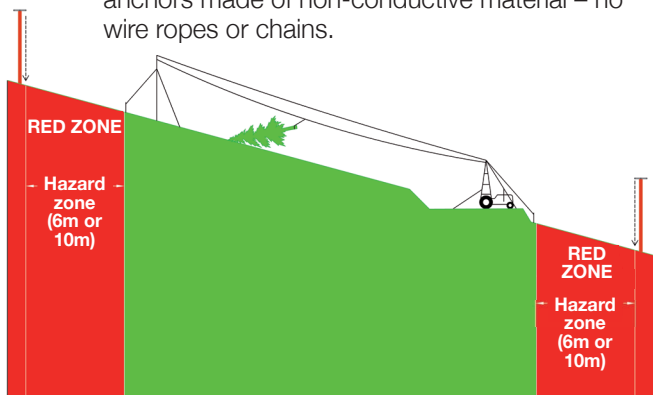

Figure 6
- Normally no part of the aerial setup (i.e. tower/ mast, skyline, haul lines, guy, spar or supports) should be located within the Red Zone of an OEL (see Figure 6). In exceptional circumstances it